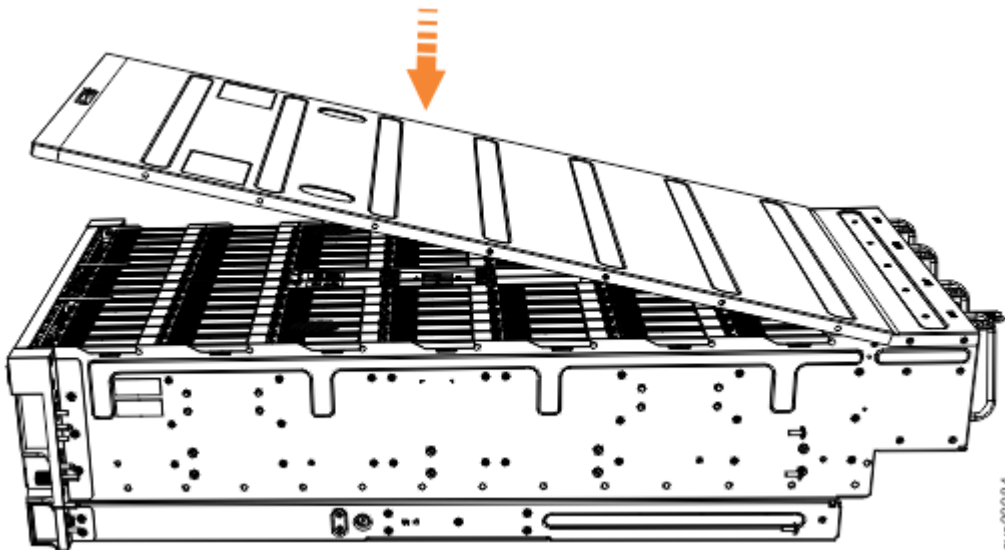

Figure 43. Aligning the 2077-92F, 2077-A9F top cover
1. Carefully lower the cover and ensure that it is aligned correctly with the back of the enclosure, as shown in Figure 43 on page 48.